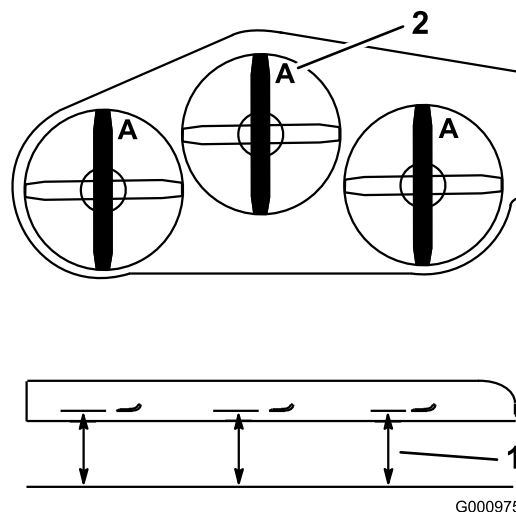

Figure 75
3. Rotate the blades until the ends face forward and backward (Figure 75). Measure from a level surface to the cutting edge, position A, of the blades (Figure 75). Note this dimension.